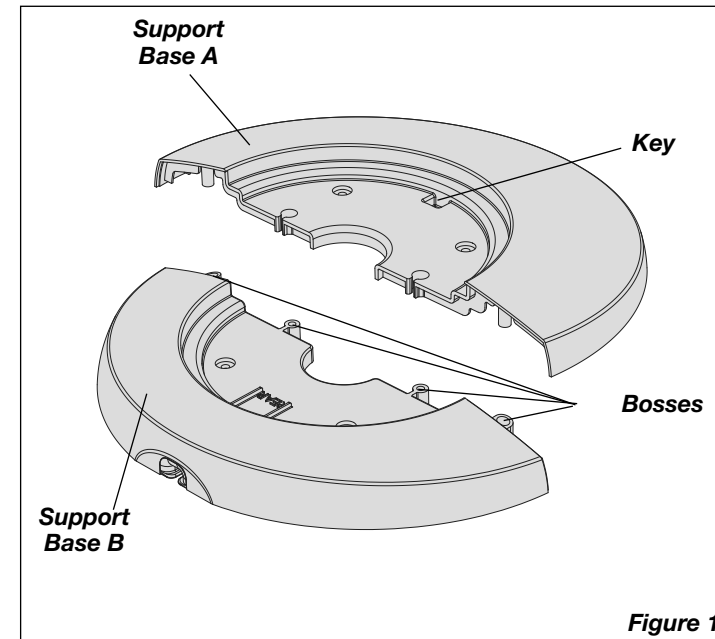
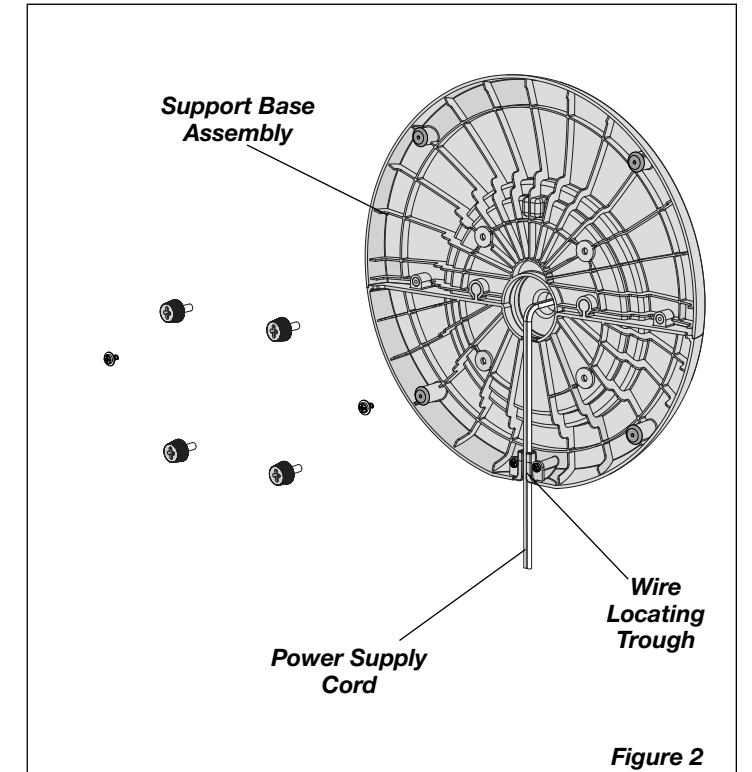

Figure 1
Figure 2
2. Assemble the Support Base Halves by interlocking the Bosses on Support Base A into the Boss Holes on Support Base B. Thread the Power Supply Cord through the large hole in the center of the Support Base Assembly. (*Figure 1*)
3. Secure (2) #8 X 3/8" Screws into the two outer holes in the bottom of the Base. (*Figure 2*)
4. Align the Support Base Assembly with the Motor Base, noting that the cord channel on the bottom of the support base assembly should be towards the back of the Fan. Attach the Support Base Assembly to the Motor Base with Thumb Screws. Make certain to align the Key on the Support Base Assembly with the Locating Notch on the Motor Base. (*Figure 1*) Gently pull any excess slack of the Power Supply Cord and place it in the Wire Locating Trough. (*Figure 2*)